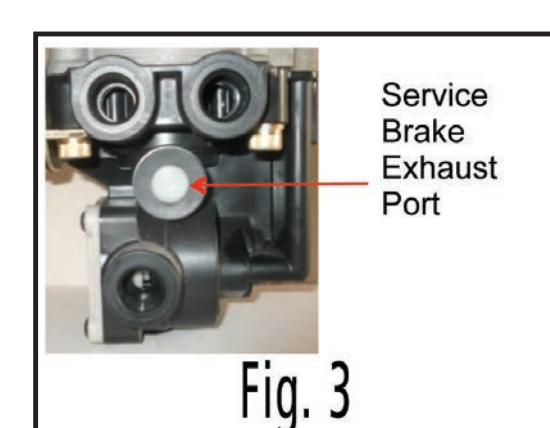

Fig. 3
Leaks air at service brake exhaust port with all brakes released. See Fig. 3
- Leaks air at service brake exhaust port: Air tanks full, service brakes released, park brakes in parked position. See Fig. 3
- Doesn't leak air at service brake exhaust port with park brakes released, but does, with service brakes applied. See Fig. 3